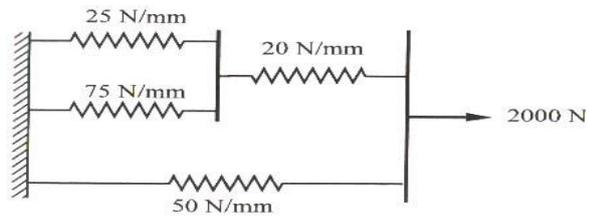

Figure: 3
- Q.5** (a) Consider a cluster of four springs as shown in figure 3. Calculate deflections of each spring when a force of 2000N is applied. Model the spring as 1D spar elements. **07**